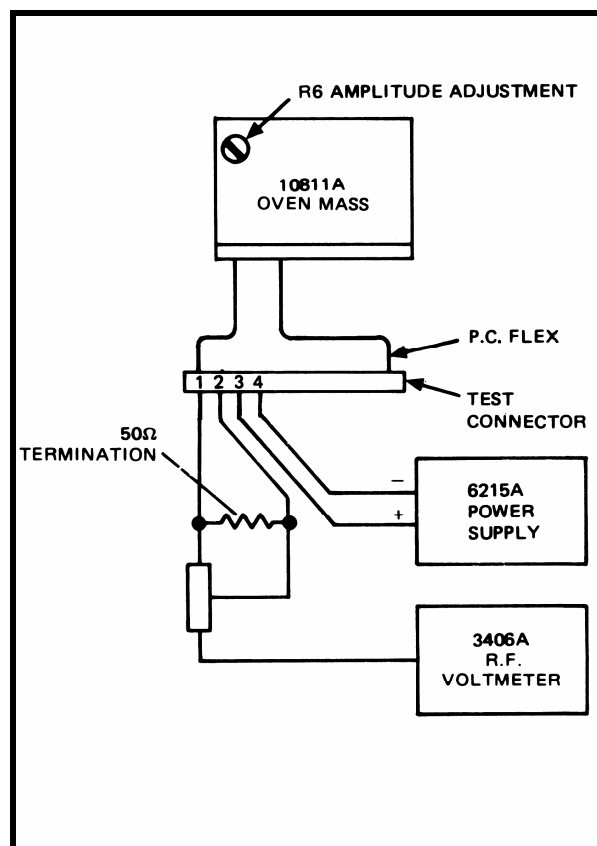

Figure 5-2. 10811A Amplitude Adjustment Set-up
- b. Connect pin 1 of the 15 pin pc connector through a 50Ω termination (use pin 2 as ground) to a 3406A Sampling Voltmeter. See Figure 5-2. Do not apply power to the oven circuits.